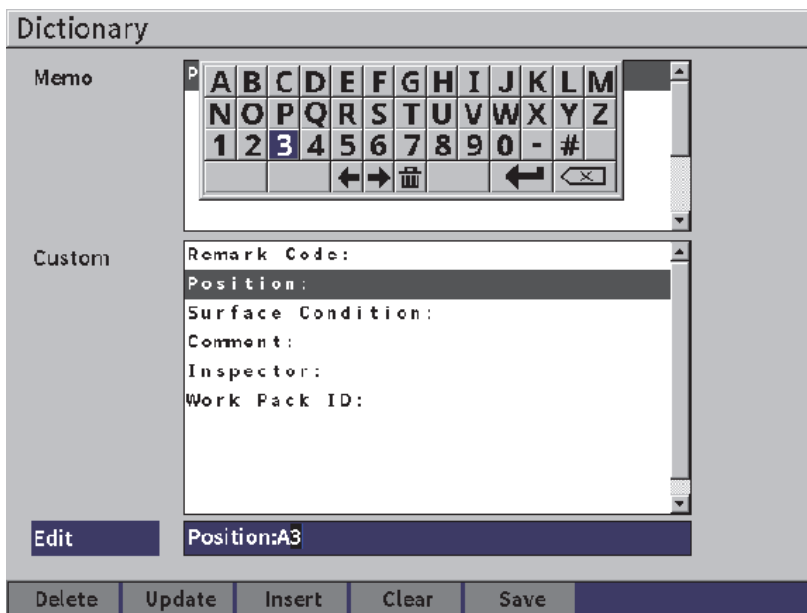

Figure 9-21 Memo Dictionary page — Editing a label
7. Enter characters (up to 32) using the virtual keypad, adjustment knob, and the Enter key (see Figure 9-21 on page 145).